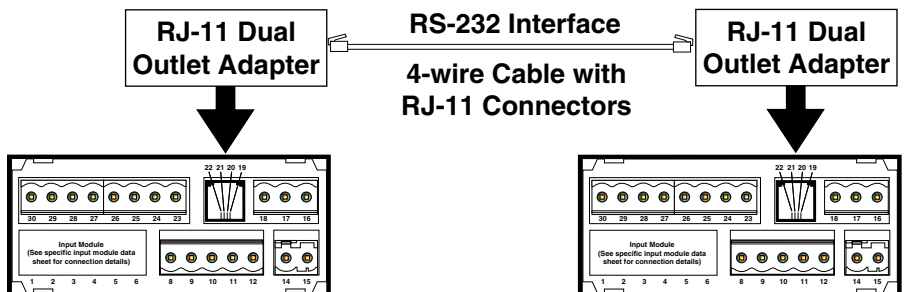

Figure 21 – Meter to Meter Connection through Serial Ports
- ➔ 6) Connect both meters through the serial port (See Figure 21).